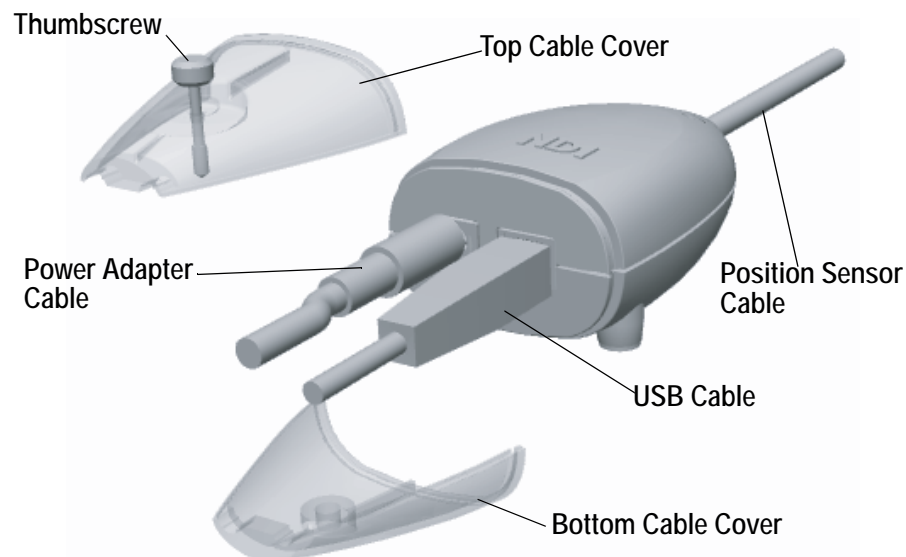

Figure 2-3 Connecting Cables to the Host USB Converter
2. Connect the USB cable B plug and power adapter cable to the Host USB Converter, as shown in Figure 2-3.
3. Locate the top and bottom cable covers in place on the Host USB Converter. Secure the covers with the thumbscrew, as shown in Figure 2-3.